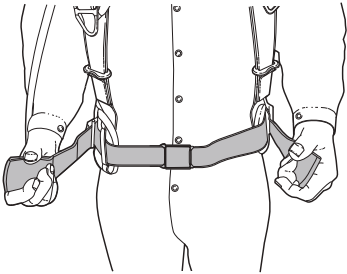

Fig. 18 Pulling the ends of the waist belt
- Pull the ends of the waist belt forward (Fig. 18). The belt padding should fit securely and comfortably over the hips.